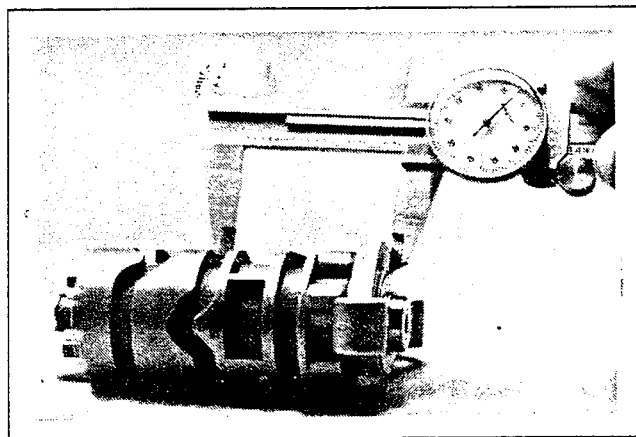
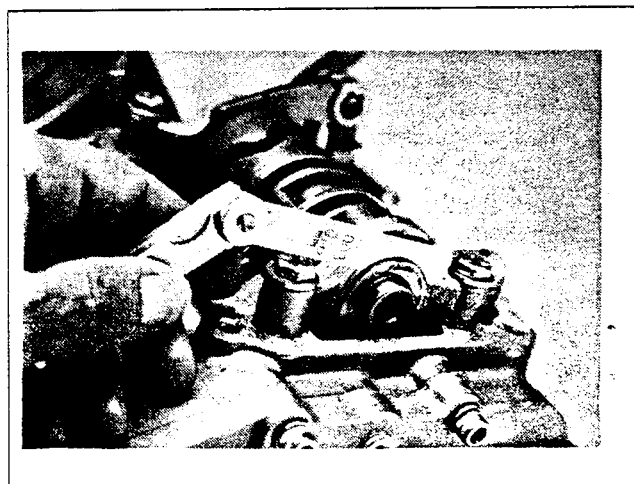

Figure 4. Measuring Shift Drum Position
Figure 5. Checking End Play
7. See Figure 4. Rotate the drum to its neutral position. With the drum snug against the thrust washer of right support block measure from the outside machined surface of the exposed shoulder at the outer perimeter of the thrust washer to the nearest edge of the center groove. This measurement should be 1.992-2.002 in. Cam end play (Figure 5) should not exceed 0.009 in. If measurements are not as specified in this bulletin, consult your service manual.